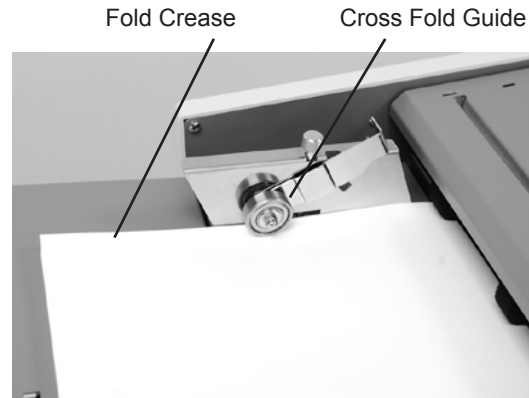

Fig. 10a
1. Load folded paper into the feed tray with the fold crease facing the non-operator side of the folder (Fig 10a).